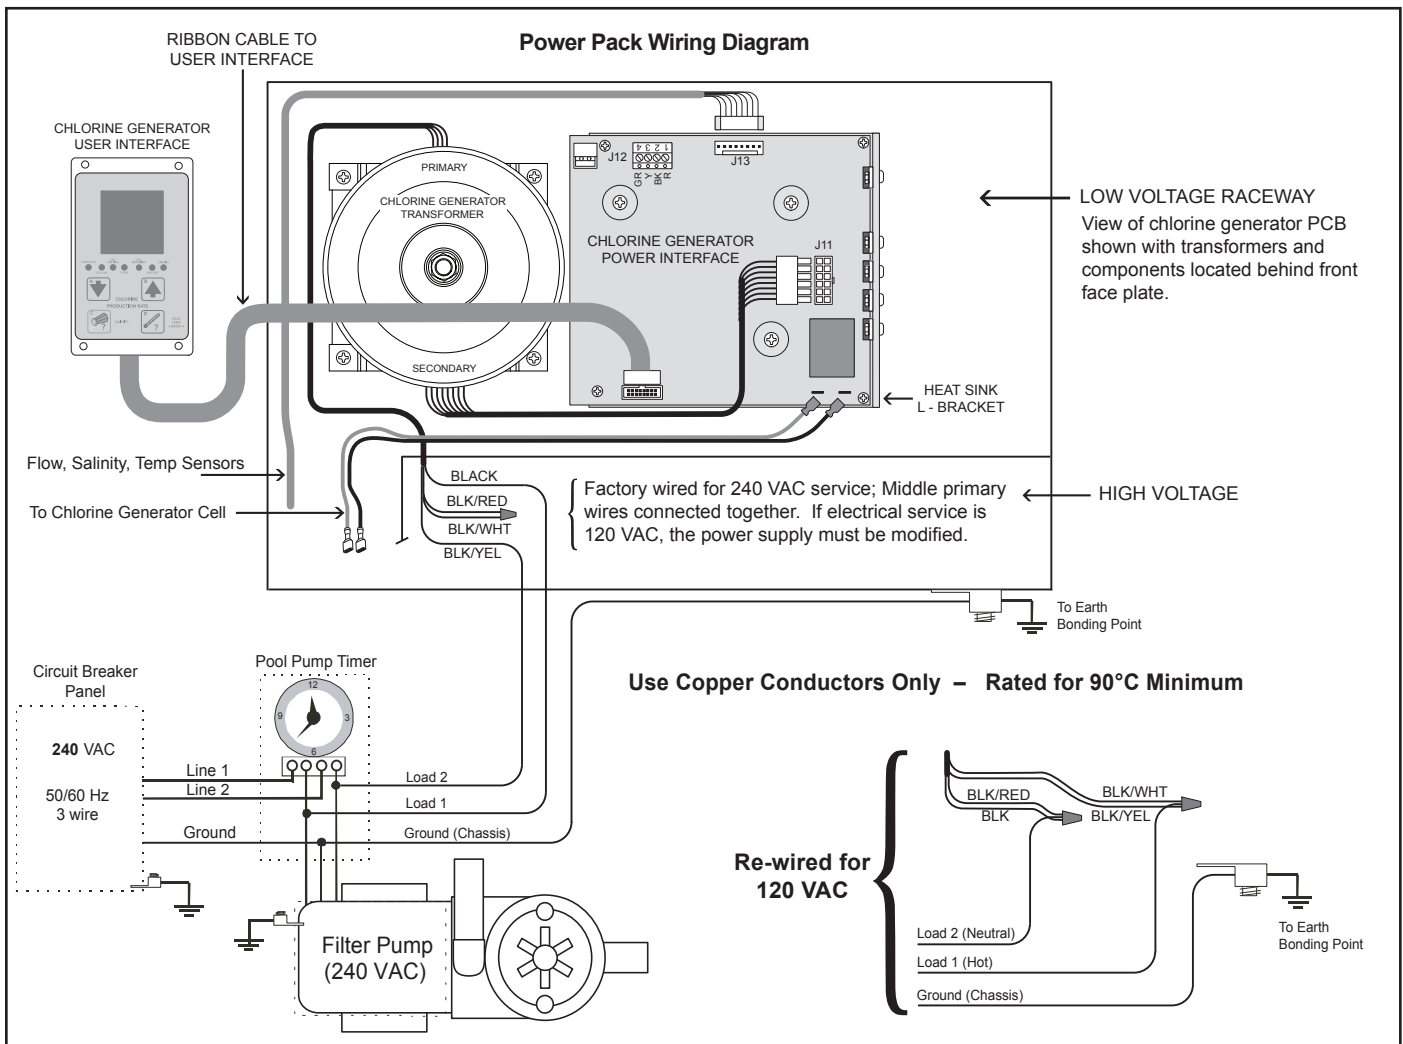

Figure 11. Wiring Diagram for the Power Pack
8. Check source voltage. (All units are factory wired for 240 VAC). ***In order to use on 120 VAC, the internal factory wiring of the power center must be changed. (see Figures 11 and 13).***
3. Install the strain relief provided with the vessel kit into the low voltage knock out at the power pack. Feed the connector end of the flow/temp/salinity sensor cable through the DC cord strain relief fitting. **Be certain the connector is clean and dry**, then plug the cable into the connector on the power center printed circuit board as shown in Figures 11, 12 and 13. **(Do not pull flow/temp/salinity sensor cable too tight, allow some slack).**
5. Connect the DC cord to the power center. Feed the DC cord through the same strain relief fitting as the flow/temp/salinity sensor at the power pack. Plug the DC cord into the two (2) spade connectors of the wiring harness located in the low voltage raceway of the control/power center, see Figures 11, 12 and 13. This wiring harness establishes the connection between the cell and the power interface board.
- If the ribbon cable connecting the user interface to the power interface board was disconnected during installation then reconnect before reattaching cover (see Figures 11, 12 and 13).